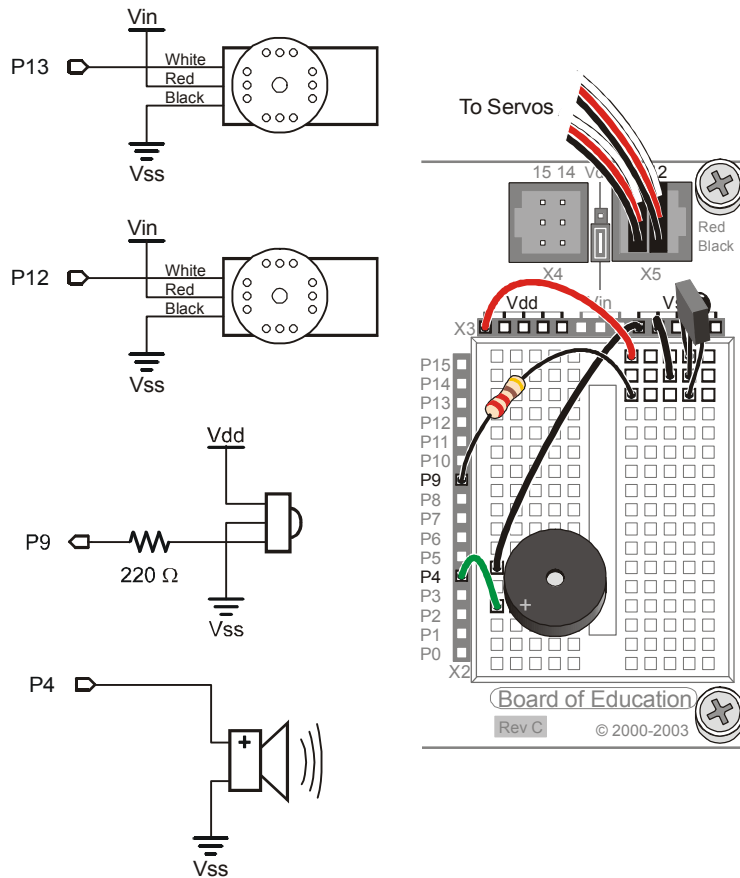

**Figure 1-15**
- ✓ Build/rebuild and test the Boe-Bot servo, IR detector, and piezospeaker circuits shown in Figure 1-15 as needed.